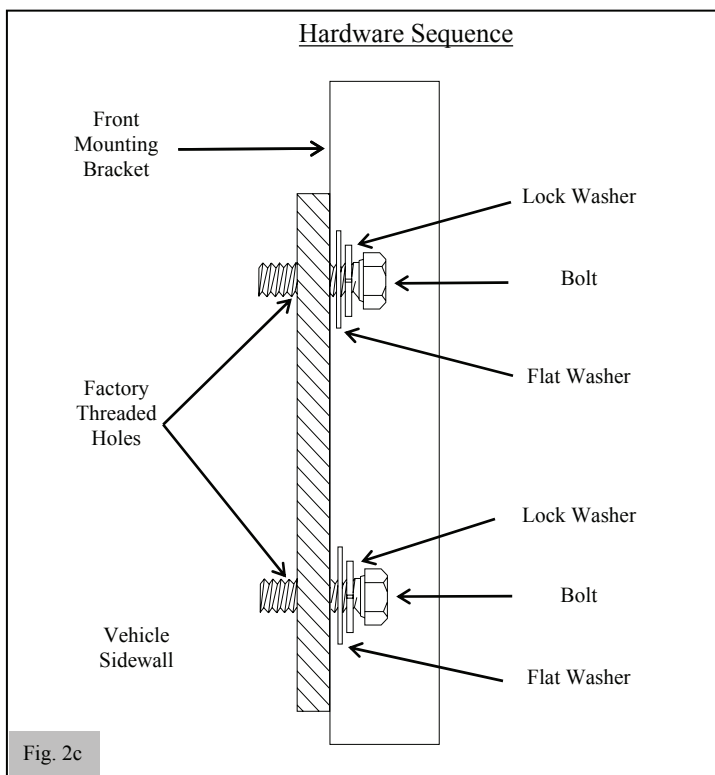

Fig. 2c
- (c) Install and snug the bolts, lock washers, and flat washers to the factory-threaded holes (loose enough so the bracket can still slide). (Fig. 2c)